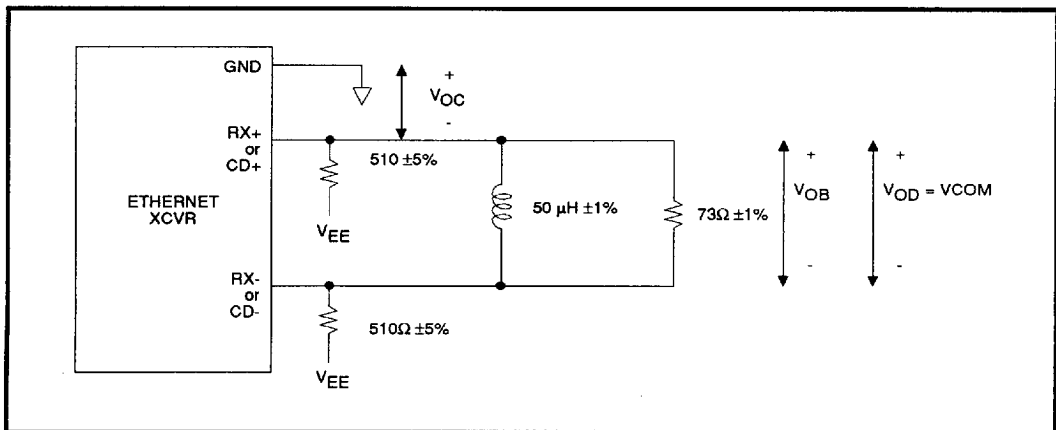

FIGURE 2: Test Load for $CD\pm$ or $RX\pm$
8. Test load as shown in Figure 2.